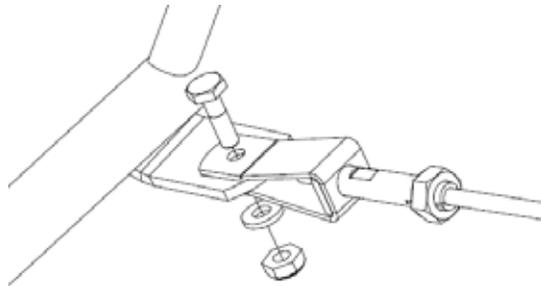

Figure 10 – Lower Tail Brace Wire Installation
- (f) Insert the short tail wire through the fuselage longeron. Secure with a washer and nut and torque to 38-43 in.-lbs. (see Figure 10).
(3) RIGGING